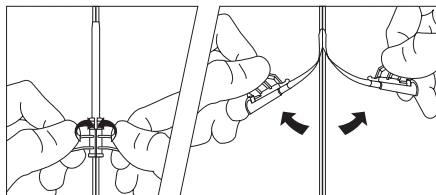

Figure 3
- Grasp tabs of peel-away sheath and pull apart, away from catheter while withdrawing from vessel (refer to Figure 3) until sheath splits down its entire length.